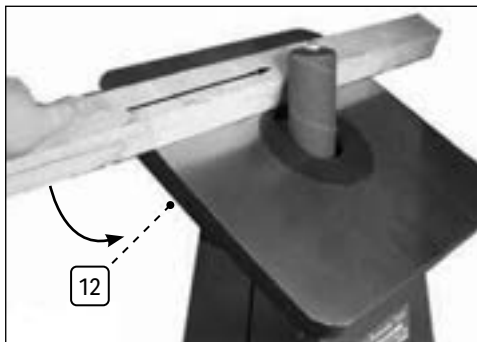

Fig. 13
7.5 Using the bobbin Sander at 0 – 45° Angles (Fig.13)
- Place in the oval table insert (See 7.1 - Tilting the table) and loosen the table locking knobs (12) either side of the sander.